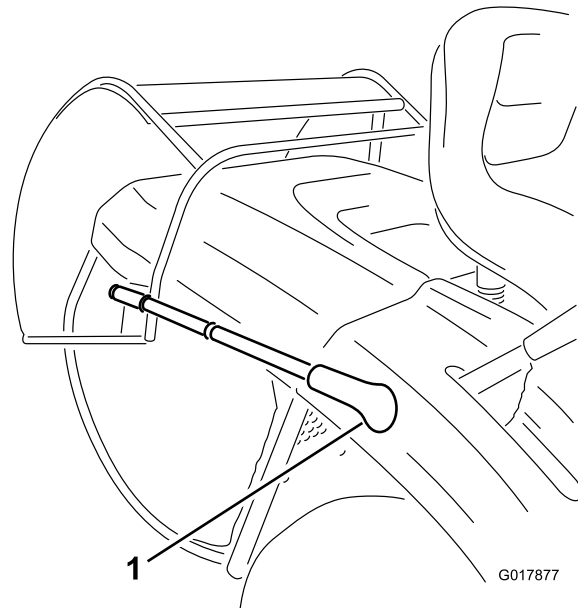
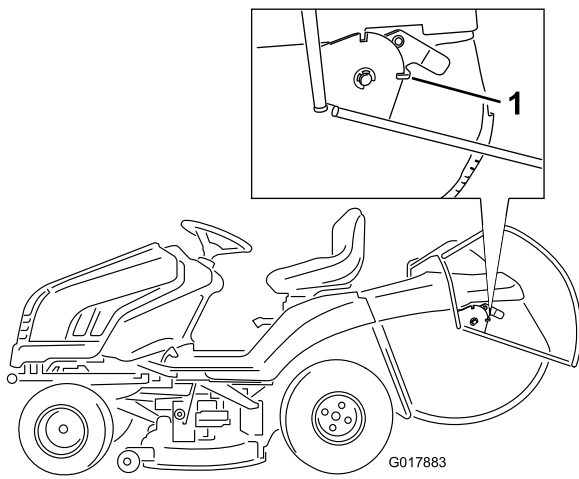

Figure 18
Figure 19
3. Pull the grass collector dump lever forward and tilt the grass collector (Figure 18) until the locking latch engages to lock the grass collector in the open position (Figure 19).